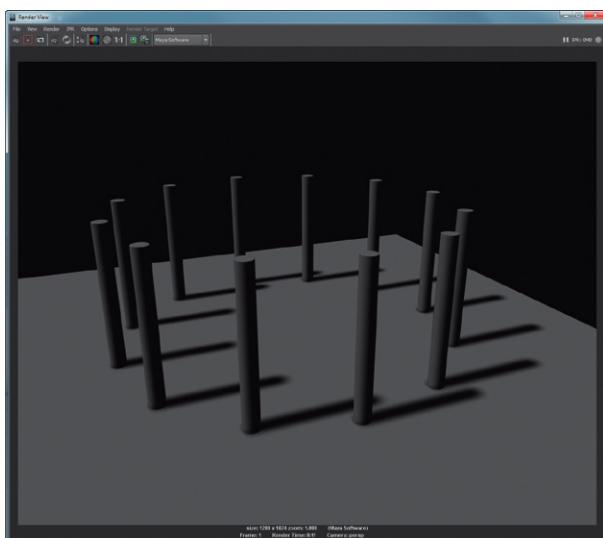

FIG 7.16 Render of the results of a Directional Light.
Step 18: Take a render (Fig. 7.16).